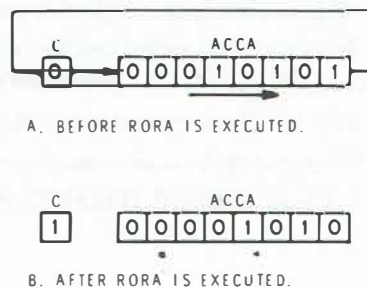

Figure 6-8
The rotate-right instructions are identical except that the direction of rotation is reversed. Figure 6-8 illustrates the execution of the RORA instruction. This instruction is also valuable. Suppose, for example, that we wish to know if the number in the accumulator is even or odd. This is determined by the LSB of the number. If the LSB = 1, the number is odd; if the LSB = 0, the number is even. One way to determine this is to rotate the number to the right so that the LSB is in the (C) register. We could then test the (C) register to see if it is set or cleared. Notice that the number could then be restored to its original value by the ROLA instruction.